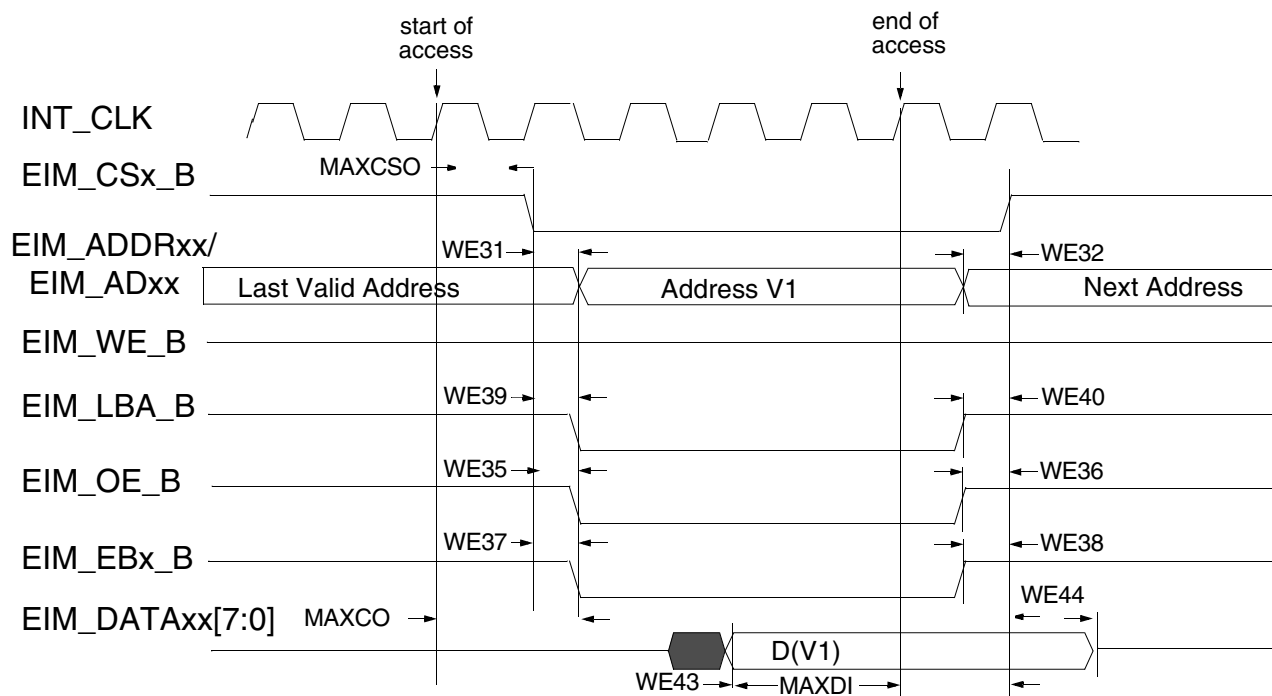
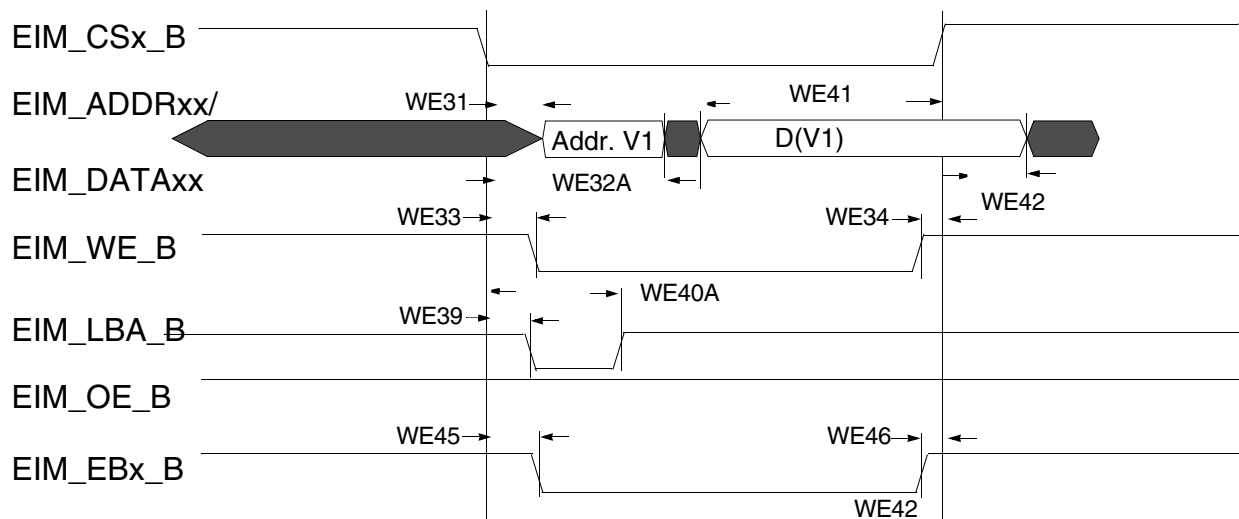
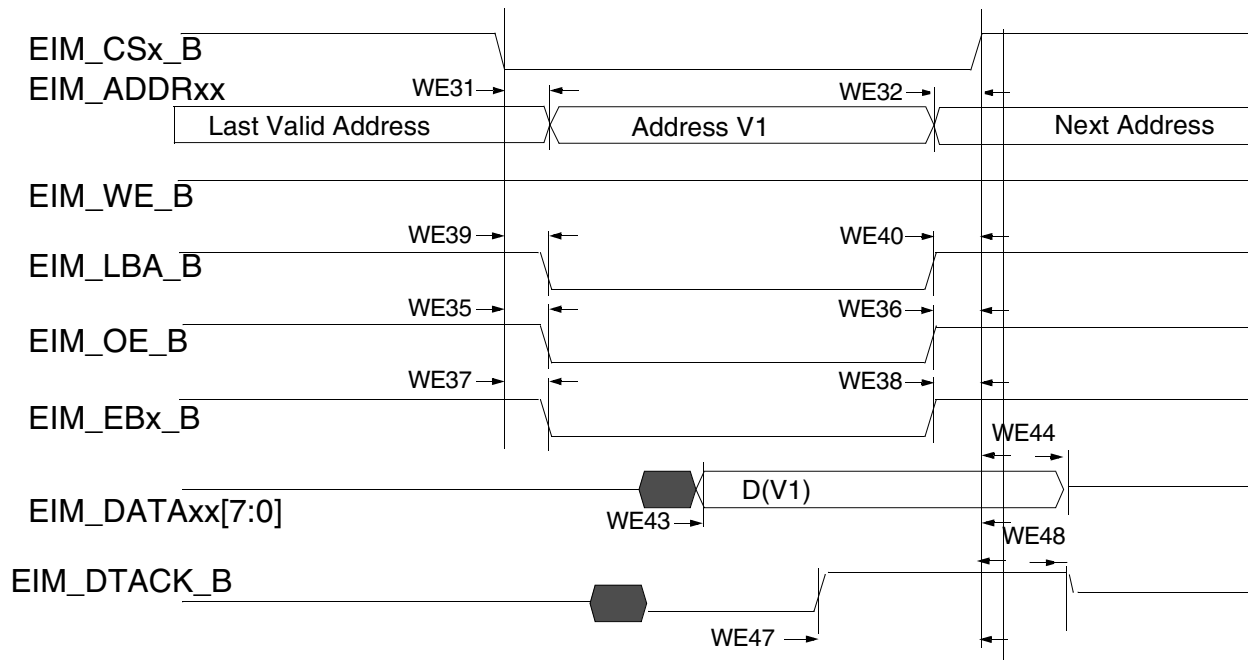

Figure 18. Asynchronous memory read access (RWSC = 5)
Figure 21. Asynchronous A/D muxed write access
Figure 22. DTACK mode read access (DAP=0)
Figure 18 through Figure 22, and Table 39 help you determine timing parameters relative to the chip select (CS) state for asynchronous and DTACK EIM accesses with corresponding EIM bit fields and the timing parameters mentioned above.
Asynchronous read & write access length in cycles may vary from what is shown in Figure 18 through Figure 21 as RWSC, OEN and CSN is configured differently. See the *i.MX 7Dual Application Processor Reference Manual* (IMX7DRM) for the EIM programming model.